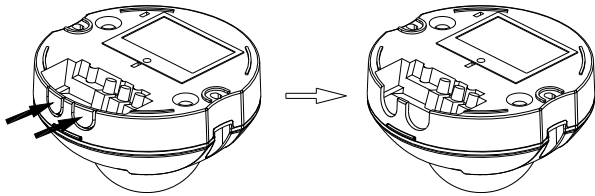

FIGURE 4
- (1) Switch off the power source or wall switch.
- (2) Push the two curve sides to remove the decorative cover.
- (3) There are two wiring outlets, depending on the actual situation. One is direct from the ceiling and the other is from the remote area. If it is located at the remote area, you should break the two knockout holes, thus enabling the power and lamp wires to go through smoothly. (FIGURE 4)